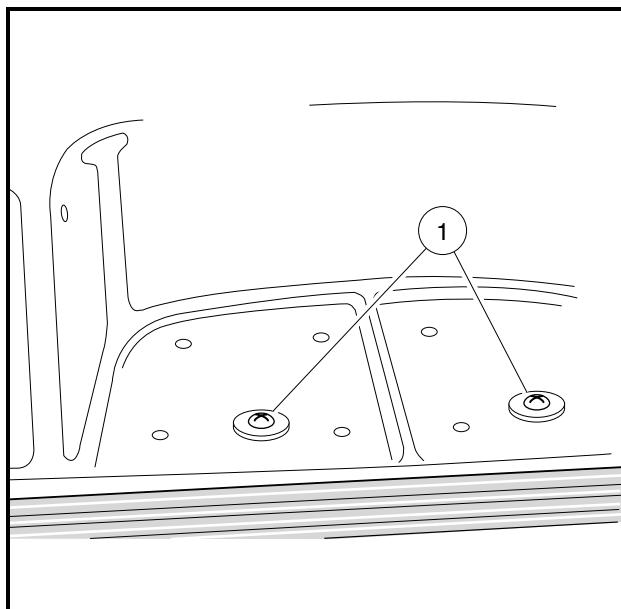

Figure 4-7 Rear Body
5. Remove two screws (1), washers and lock nuts located at the rear of the vehicle **(Figure 4-7, Page 4-8)**.
- 1.2. Tighten two screws (1) and lock nuts located under rear body to 20 in-lb (2.3 N·m) (**Figure 4-7, Page 4-8**).